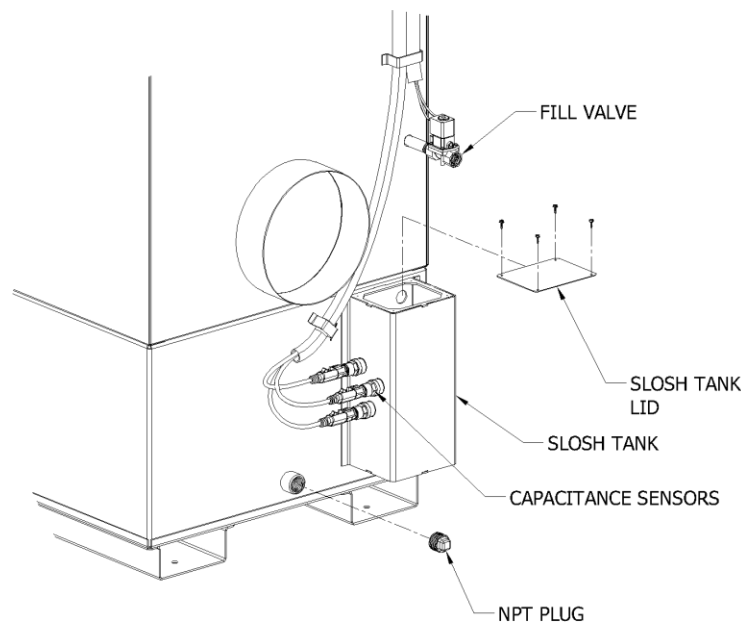

FIG. 1
5. Connect the fill control valve to potable water source via the provided  $\frac{1}{2}$ " FNPT connection (See FIG. 1).